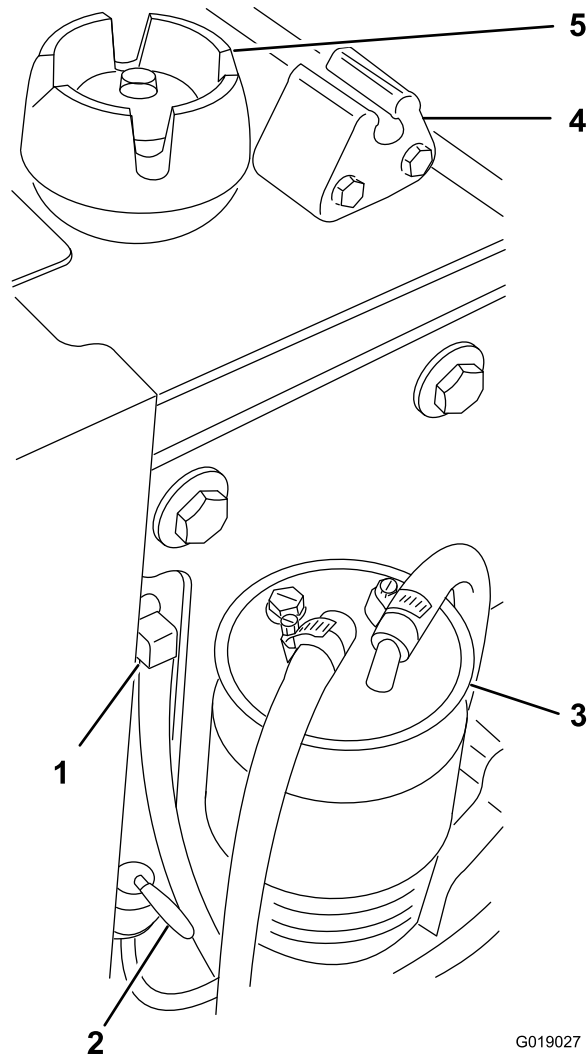

Figure 24
4. Remove the fuel cap and sensor assembly (Figure 24).
6. Install the fuel cap and sensor assembly (Figure 24).